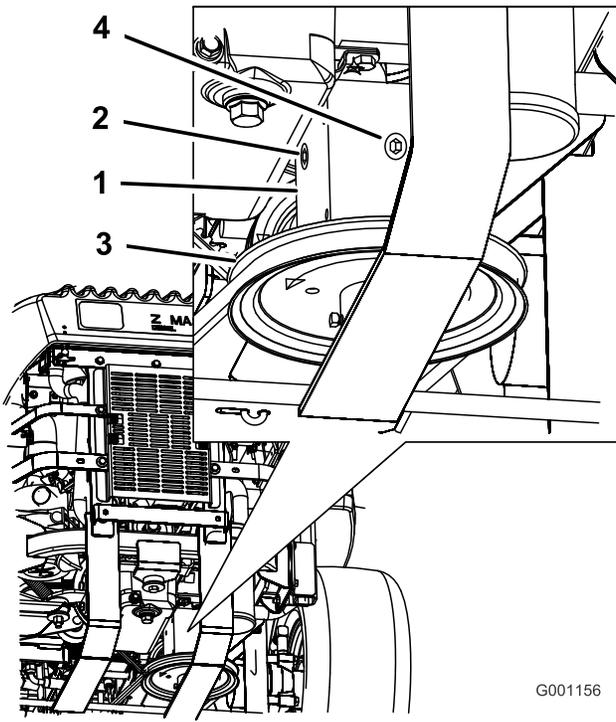

Figure 62
4. Remove the side or rear plug on the gearbox (Figure 62).